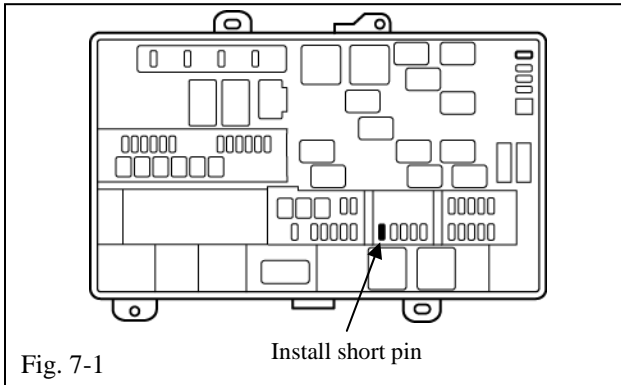

Fig. 7-1
- (a) Verify that the short pin is installed (if applicable) (Fig. 7-1).